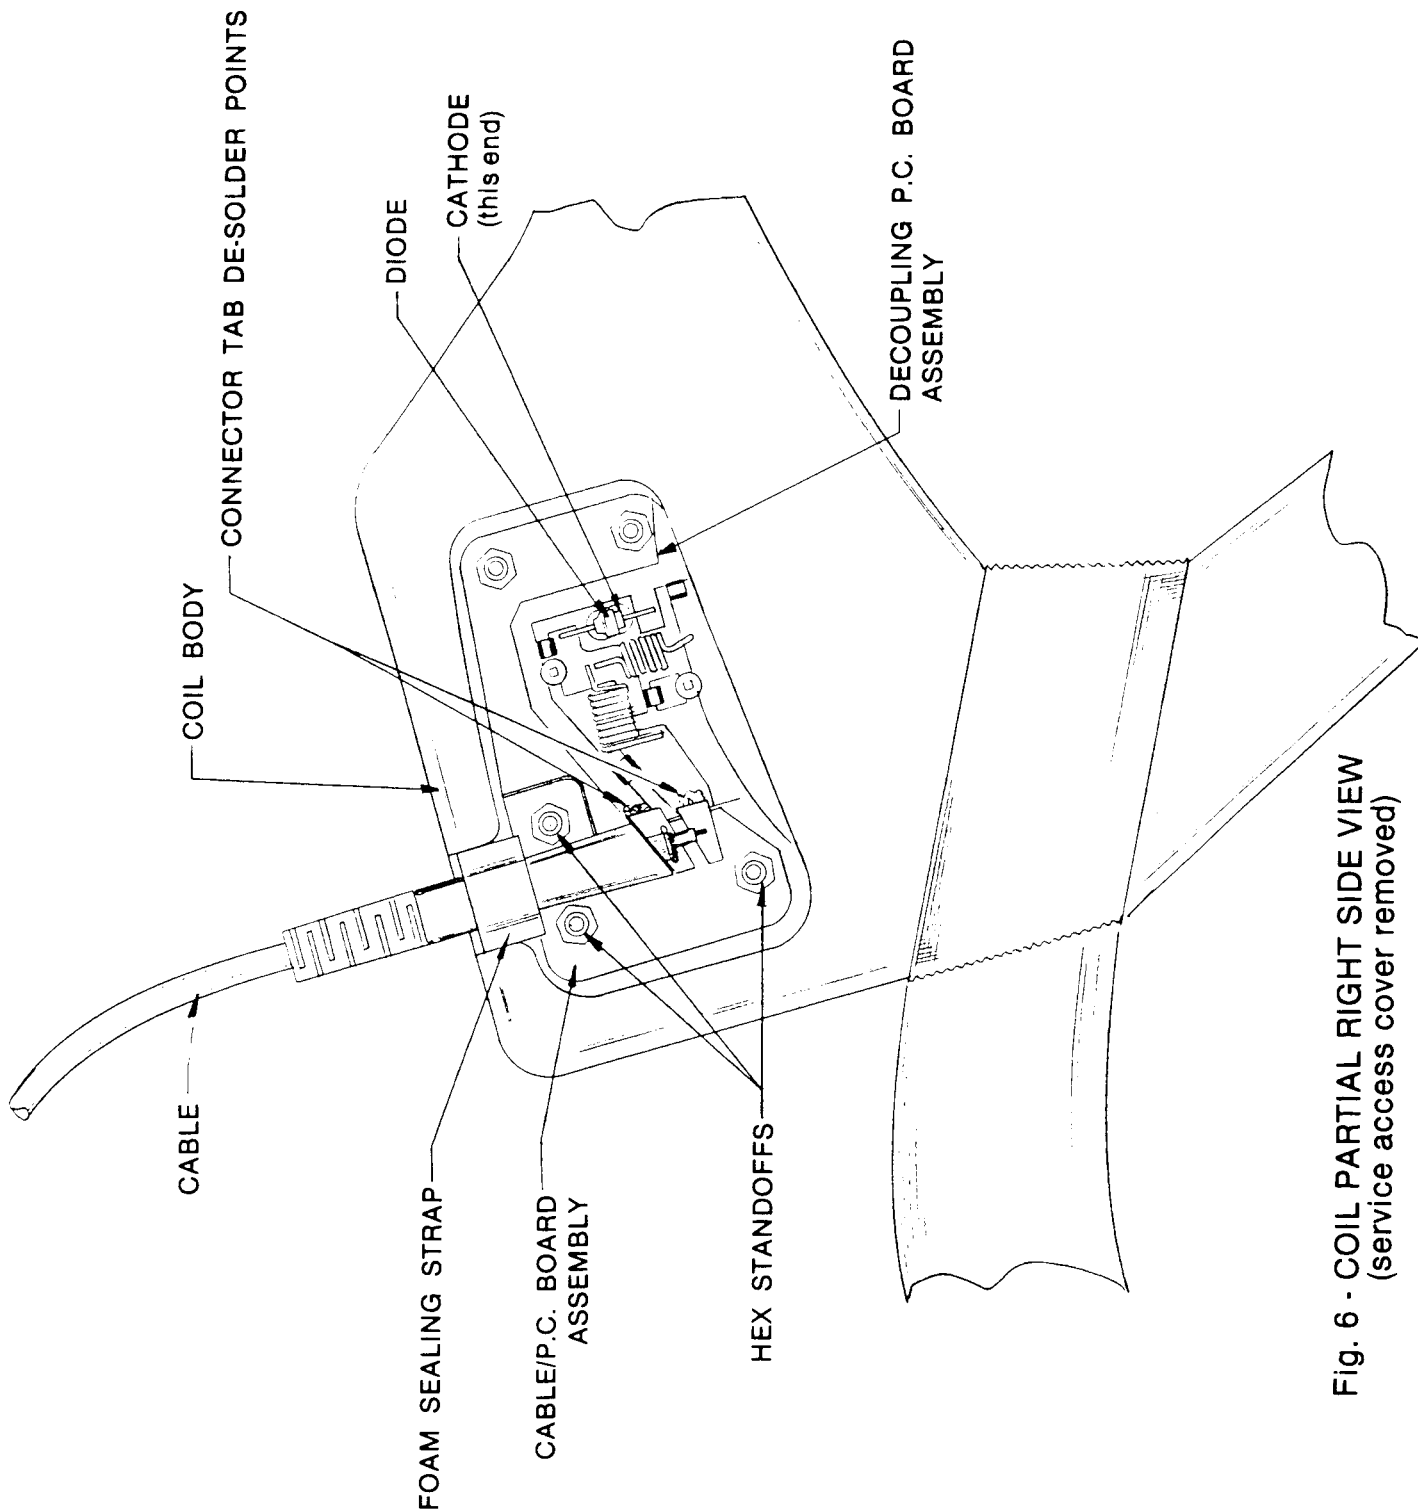

Fig. 6 - COIL PARTIAL RIGHT SIDE VIEW
- Position the diode in the cut out slot. Refer to Figure 6 for proper orientation of the anode.